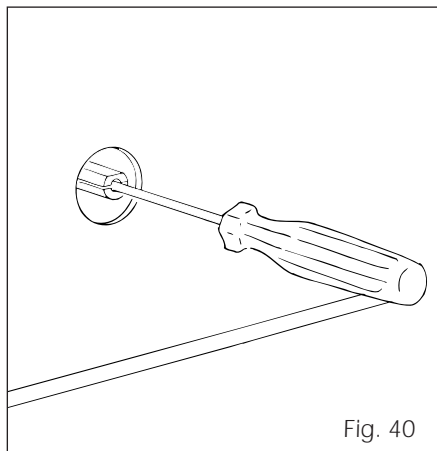

Fig. 40
- With a small flat screwdriver turn the screw inside the tap rod to the correct regulation (fig. 40).